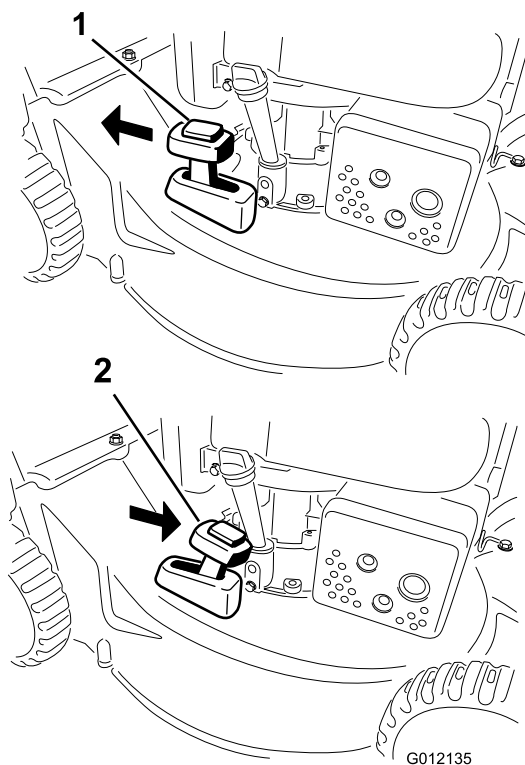

Figure 18
To recycle the clippings, move the bag-on-demand lever to the RECYCLING position (Figure 18).
2. Install the grass bag; refer to Installing the Grass Bag \(page 11\) and move the bag-on-demand lever to the BAGGING position as shown in Figure 18.
**Note:** If the grass bag is on the machine, remove it before rear-discharging the clippings; refer to Removing the Grass Bag \(page 11\). The bag-on-demand lever should be in the BAGGING position as shown in Figure 18.